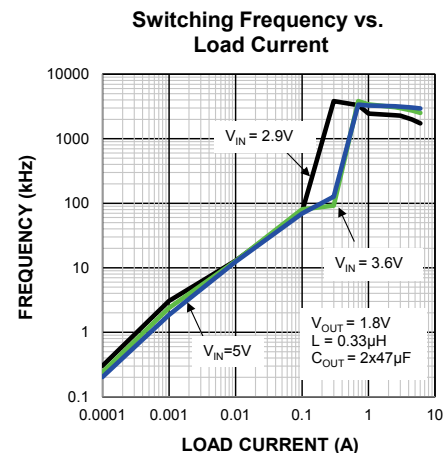

Figure 3. SW Frequency vs. Output Current
As shown in the previous equation, the load at which MIC23603 transitions from HyperLight Load mode to PWM mode is a function of the input voltage (V_{IN}), output voltage (V_{OUT}), duty cycle (D), inductance (L), and frequency (f). As shown in Figure 3, as the Output Current increases, the switching frequency also increases, until the MIC23603 goes from HyperLight Load mode to PWM mode at approximately 300mA. The MIC23603 switches a relatively constant frequency around 4MHz after the output current is over 300mA.